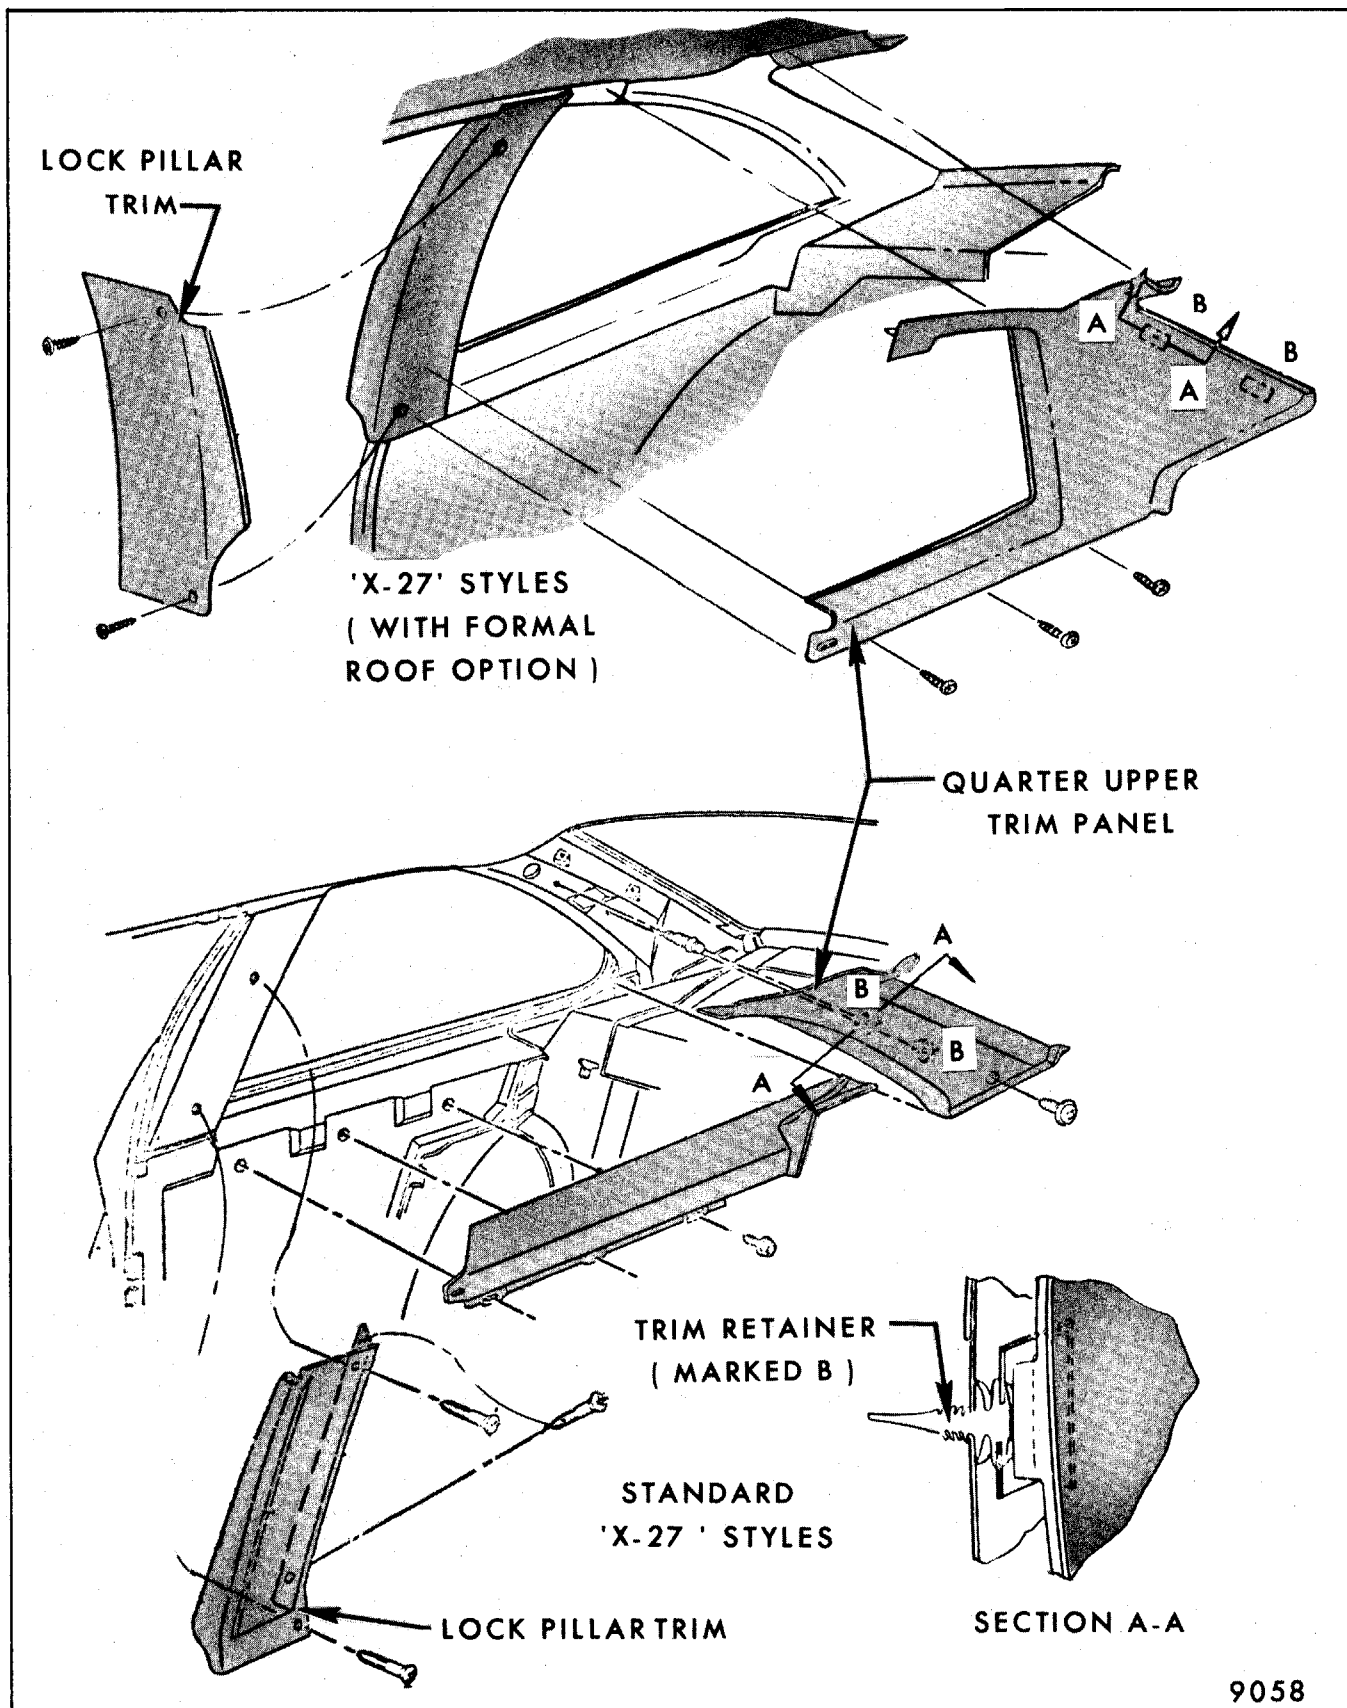

Fig. 6-17-Quarter Upper Trim Attachment - "X-27" Styles
5. Insert tool BT-7323 or equivalent under lower front and/or rear edges of trim panel until tool engages around fastener. Then pry inboard to remove fastener and trim panel (Figs. 6-17 and 6-14).